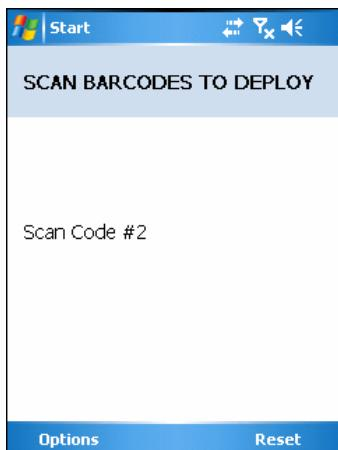

Figure 9-7 Rapid Deployment Window
- Multi-part linear bar codes (1-D bar codes) can require scanning several bar codes. Bar codes can be scanned in any order. The text box under **Bar codes left to scan...** shows the remaining bar codes to scan (see Figure 9-7).